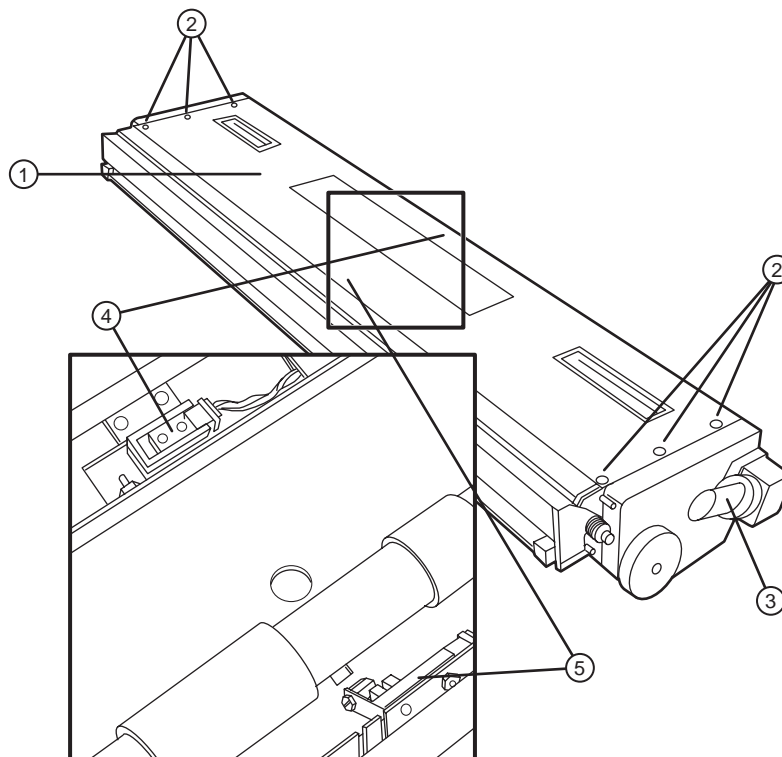

Figure 4-1 Bridge foot.
2. Unscrew the two (2) thumb screws, one on each side of the foot. Refer to Figure 4-1.
1. Remove the six (6) screws, three (3) on each side, of the bridge foot face plate. Refer to Figure 4-1.
2. Remove the media purchase sensor connector. Refer to Figure 4-1.
2. Remove the bridge loop sensor connector. Refer to Figure 4-1.